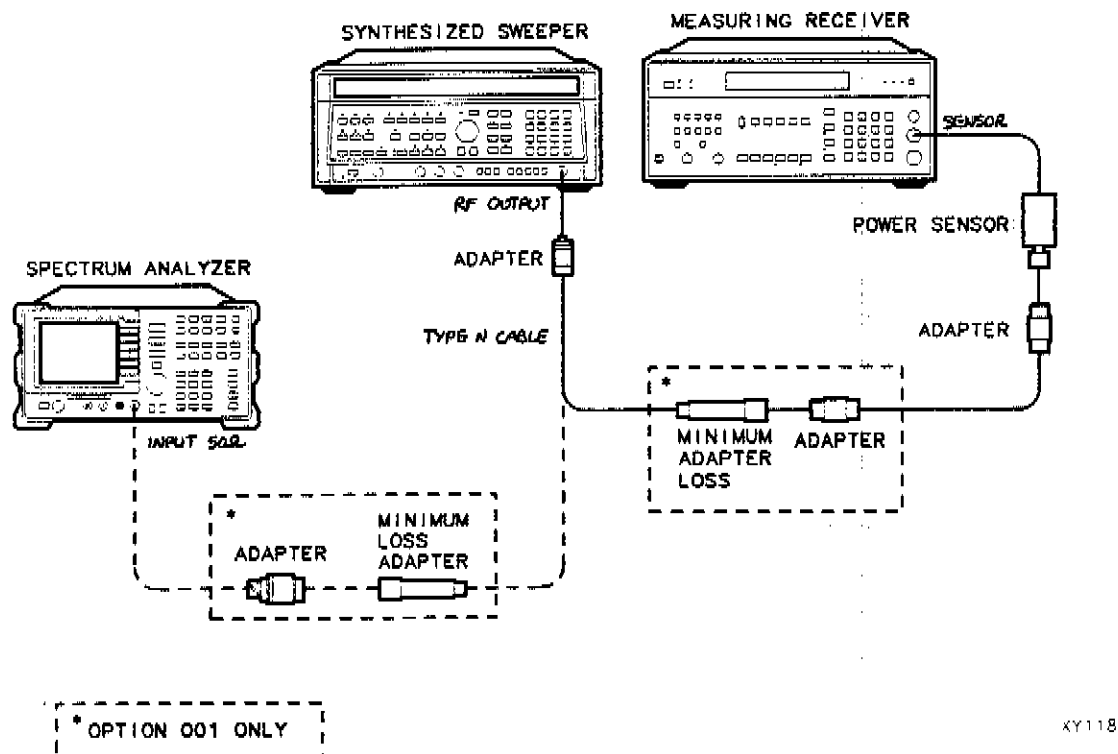

Figure 1-18. Other Input Related Spurious Test Setup
3. Connect the equipment as shown in Figure 1-18. Connect the output of the synthesizer to the power sensor using adapters.
Option 001 only: Use the minimum loss adapter and 75 Ω adapter as shown in Figure 1-18.